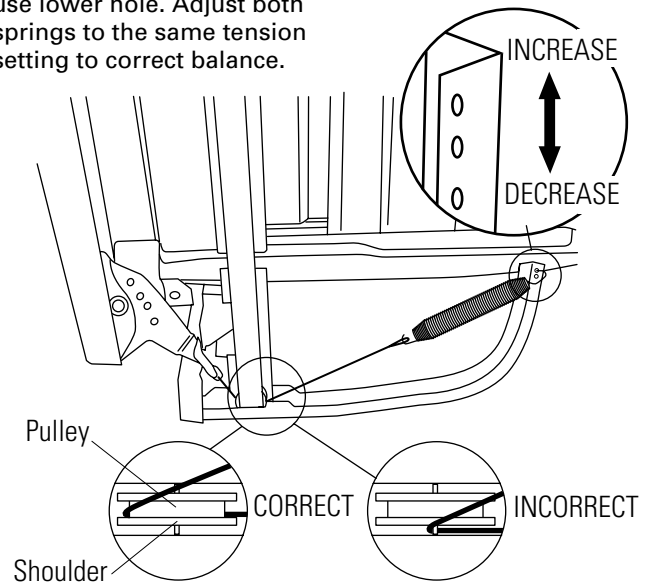

Figure 10
- Repeat the same procedure on the left side of the unit. Both springs should be on the same notch on the frame bracket as shown in Figure 10.
Check to be sure the spring cable is routed correctly before making spring adjustments. The cable is held in place by "shoulders" on the pulley. See Figure 10. Check to be sure the cable has not slipped over the pulley shoulder and onto the axle.